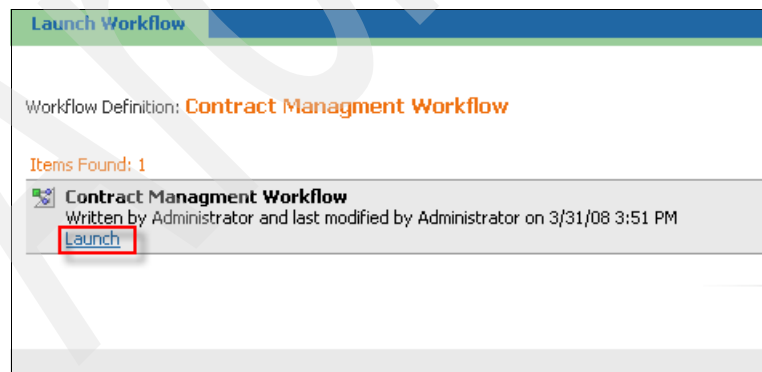

Figure 7-59 Launch Workflow panel
4. In the Launch Workflow panel (Figure 7-59), click **Launch**.